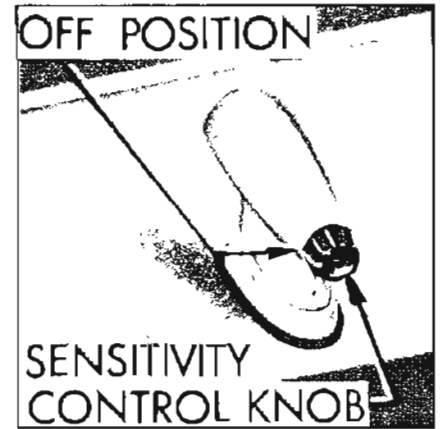

Figure 11-163—Guide-Matic Phototube
converts light into an electrical signal for use by the amplifier unit. A control knob is located on the rear of the unit and allows the driver to limit the amount of sensitivity of the unit. Manual operation of the headlights, by using the foot switch, may be obtained by rotating the control completely counterclockwise to the off position. See Figure 11-163.
- (1) Set driver sensitivity control to detent position (fully counterclockwise).
- (2) Install Tester Lamp. (Use Kent-Moore Model J-8465). See Figure 11-163.
- (3) Start engine and operate at fast idle while making adjustments.
- (4) Turn headlamps on and wait at least 5 minutes for amplifier unit to stabilize. Place foot switch in automatic position.
- (5) Turn zero corrector on face of meter until meter pointer is on ZERO SET line. See Figure 11-163.
- (6) Turn Tester INTENSITY CONTROL counterclockwise.
(1) Rotate tester INTENSITY CONTROL completely counterclockwise.
(2) Turn DIM-HOLD switch to HOLD position and then back to DIM position. Headlamp should be on upper beam.
(3) Turn tester INTENSITY CONTROL clockwise slowly just to point where headlamps switch to lower beam. The meter pointer should now read in the black DIM ADJ. range on the meter scale. See Figure 11-163. If not, proceed to the hold and dim sensitivity adjustments.
(1) Turn INTENSITY CONTROL all the way clockwise.
(2) Turn DIM-HOLD switch to DIM position and back to HOLD position to obtain a lower beam.
(3) Slowly turn INTENSITY CONTROL counterclockwise just to the point where headlamps switch to upper beam. The meter pointer should now read in the green HOLD ADJ. range on the meter scale. See Figure 11-163. If not, proceed to the hold and dim sensitivity adjustments.